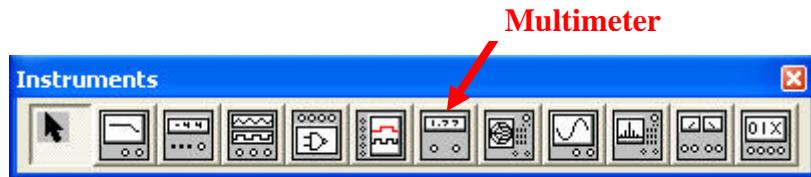

Figure 13: Instruments Toolbar
- a. Select **View→Toolbar→Instruments**. The Instruments toolbar will open as shown in Figure 13.